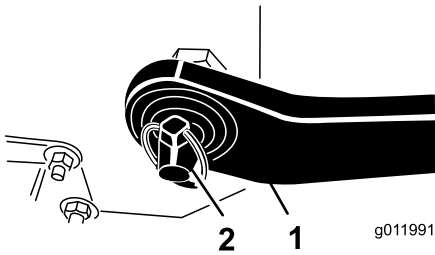

Figure 4
4. Insert the right and left, lower link arms onto the hitch pins (Figure 4).
5. Secure the lower link arms to the hitch pins with the lynch pins (Figure 4).